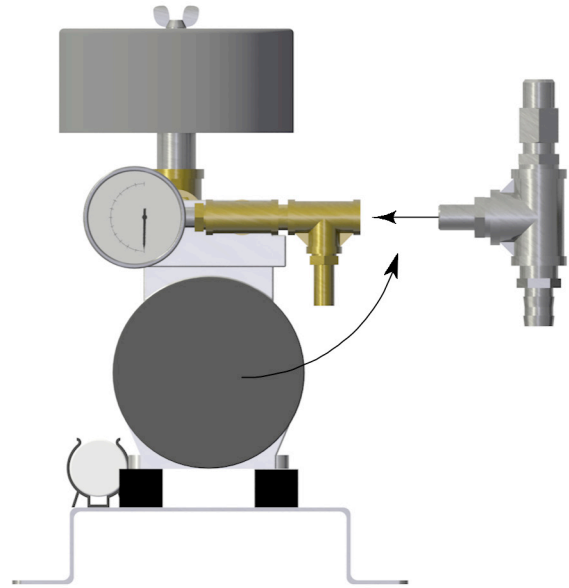

Figure 13: Step 2 Rotate and attach assembly
- Step 2:** Rotate the entire discharge assembly and attached the electrical connection assembly. If required. (See Figure 13)